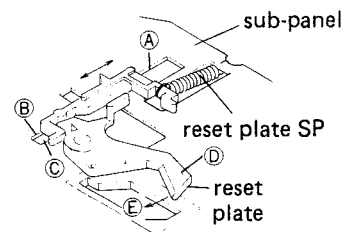

Fig. 1-5 Improper movement of selector.
If there are plastic protrusions remaining from the original-pressing process on surfaces (A), (B), and (C) of the sub-panel which slides with the selector, the movement of the selector will be adversely affected. Therefore, these protrusions must be removed (Fig. 1-5).
If there are plastic protrusions on the pressure pin section of section (D) of the reset plate, these protrusions will come in contact with the lower surface of the driving panel when the reset plate moves in direction (E) and the movement of the reset plate will be adversely affected. Therefore, these protrusions must be removed (Fig. 1-5).